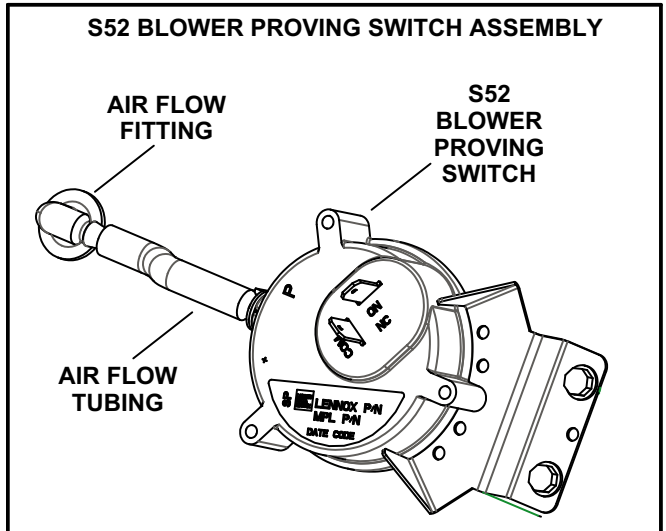

FIGURE 1
- 2- Cut air flow tubing to 2" for 024-072 and 156-300(S) units. Use length provided for 092-150 units.
- 3- Assemble air flow switch, tubing, and fitting as shown in figure 1.